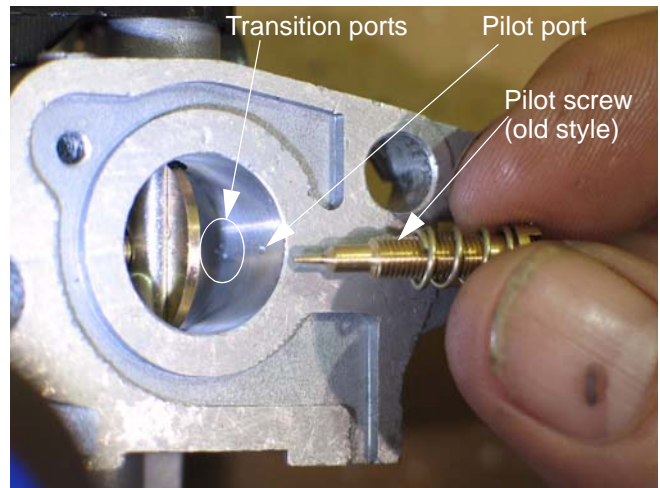

Figure 4.49
**NOTE:** The pilot screw regulates how much of this pre-mixed fuel/air emulsion is allowed to enter the throat of the carburetor, to atomize down-stream of the throttle plate. On early production carburetors the pilot screw is serviceable, but on current production units it is set at the factory with loctite to prevent movement from vibration. The screw head is removed to meet EPA and CARB requirements. See Figure 4.49.